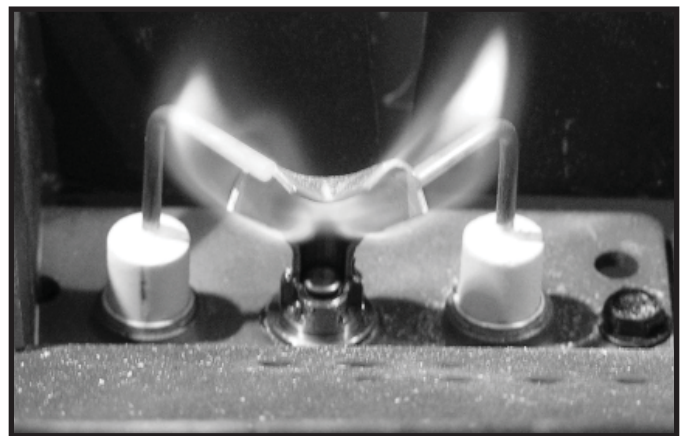

Figure 4.3 IPI Pilot Flame Pattern
- Inspect pilot flame pattern and strength. See Figure 4.3 for proper pilot flame pattern. Clean or replace orifice spud as necessary.